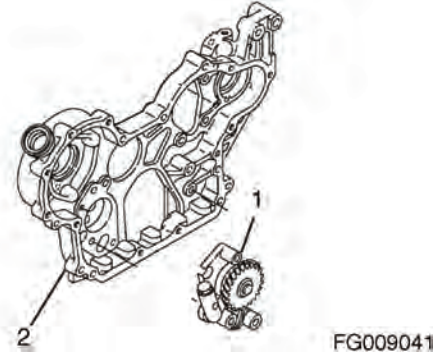

Figure 325
2. Remove the oil pump assembly bolts. Remove the oil pump assembly (1, Figure 325) from the gear case housing (2, Figure 325).